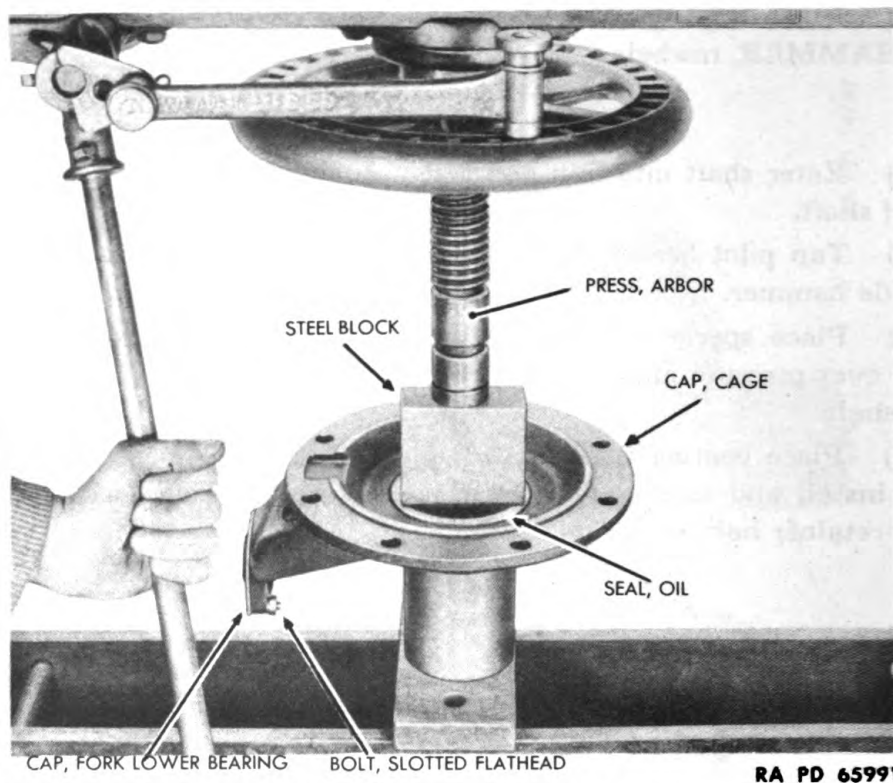

Figure 108 — Oil Seal in Drive Bevel Gear Bearing Cage Cap Installation
(6) **INSTALL OIL SEAL IN DRIVE BEVEL GEAR BEARING CAGE CAP** (fig. 108).